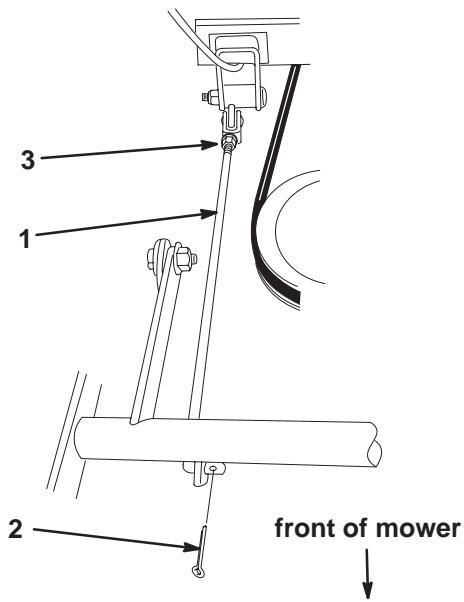

Figure 32
- Remove the cotter pin at the front of the adjusting rod (Fig. 32).
- Loosen the nut at the rear of the adjusting rod (Fig. 32).